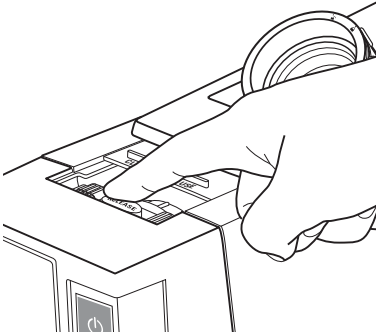

Figure 7
10. Press the “Release” button on the pressure wall. See figure 7.